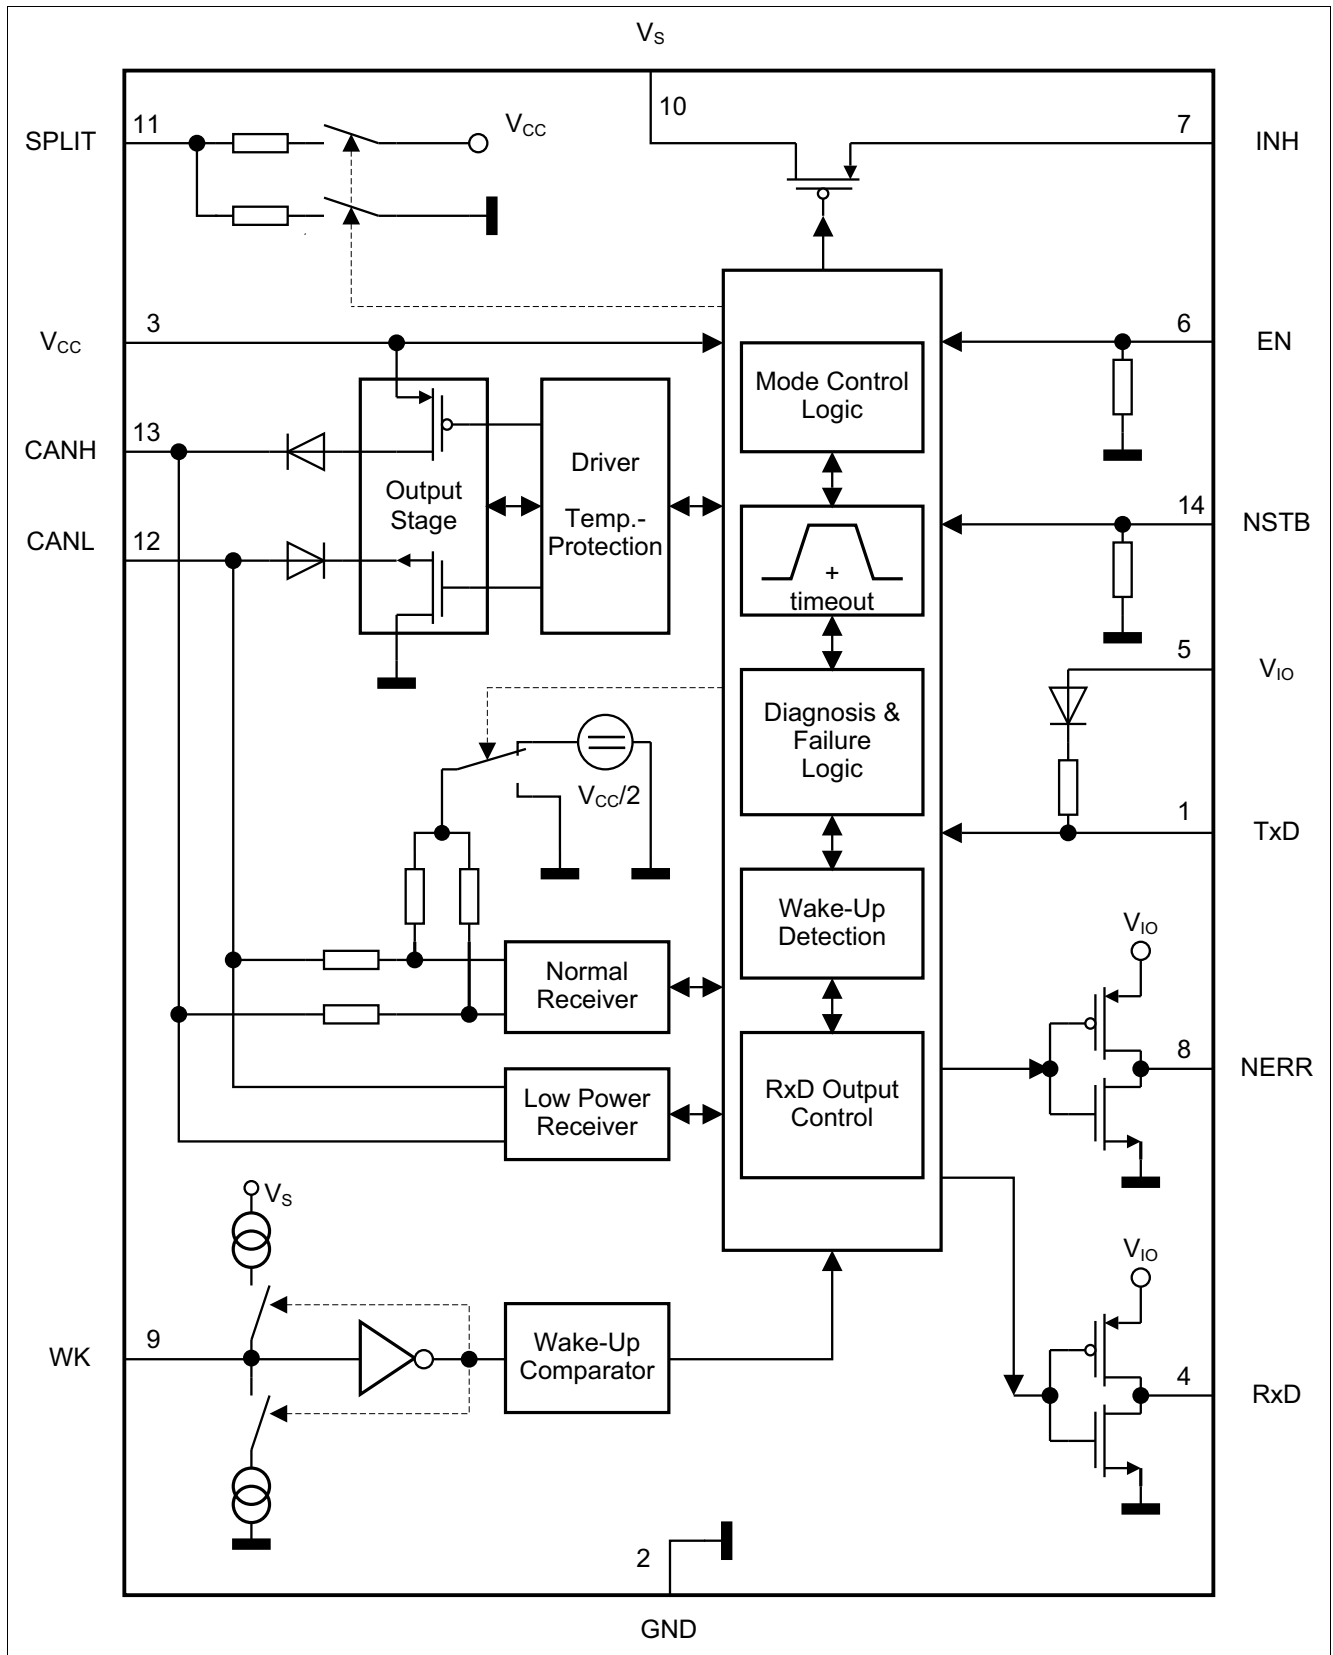
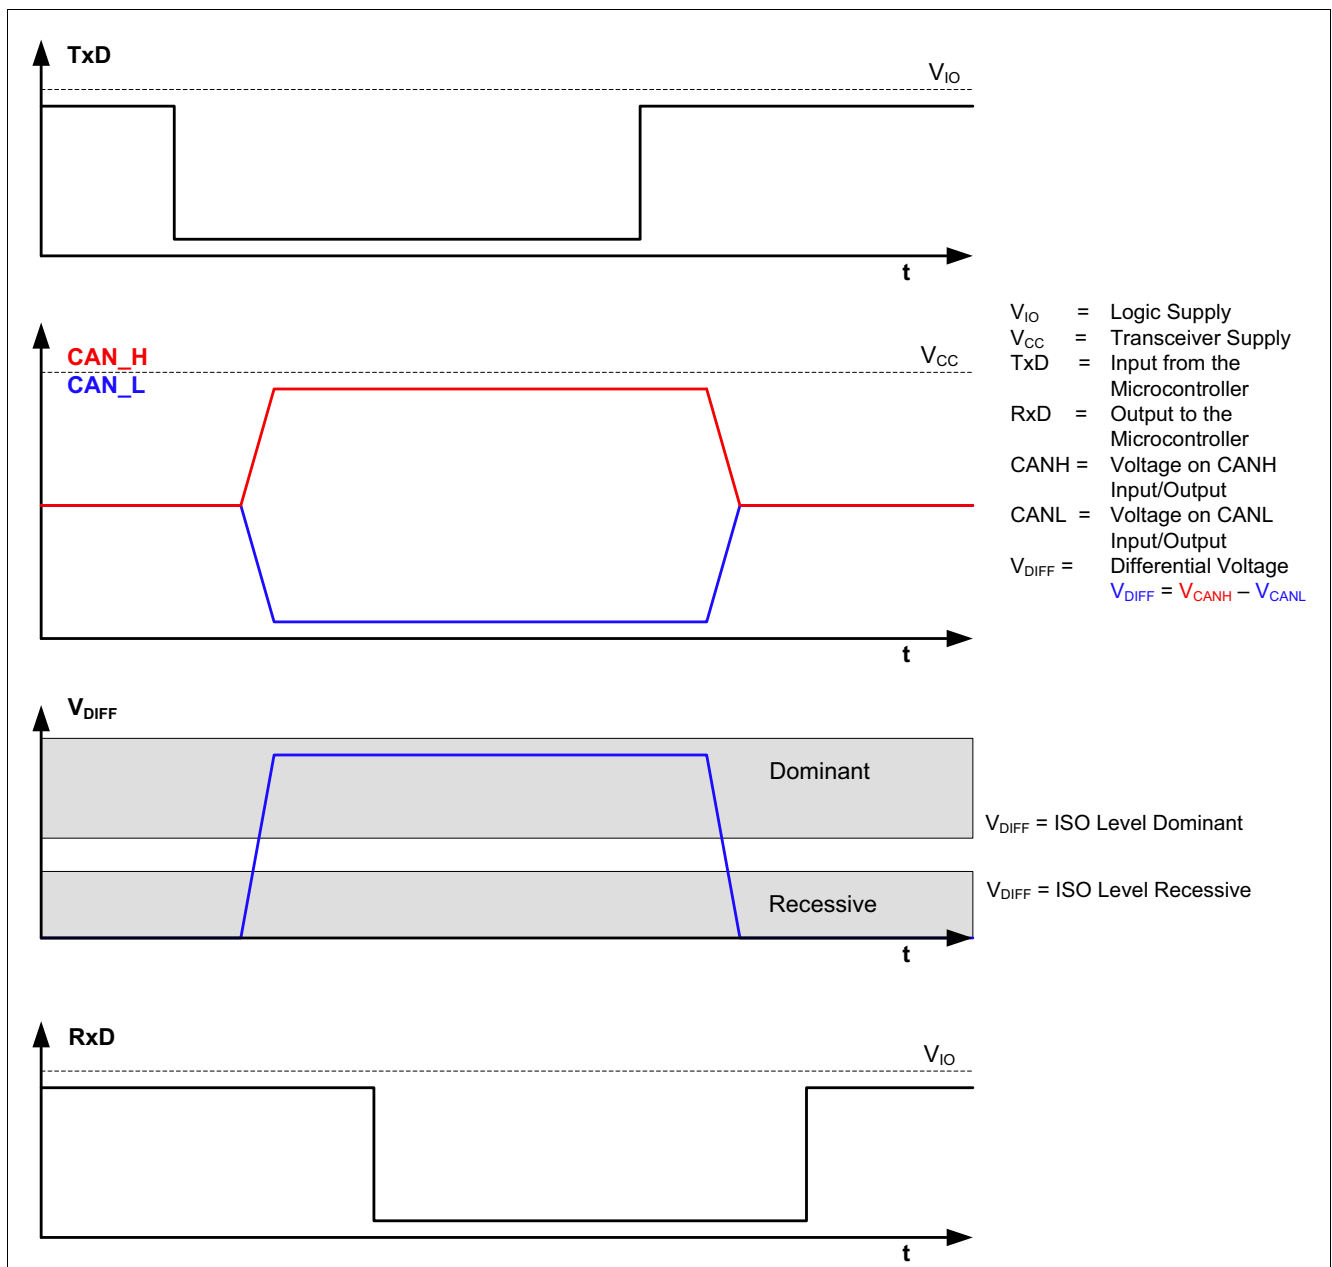

Figure 1 Block Diagram
Figure 3 High Speed CAN Bus Signals and Logic Signals
The TLE6251-2G is a High Speed CAN transceiver, operating as an interface between the CAN controller and the physical bus medium. A High Speed CAN network (abbreviated HS CAN) is a two wire differential network which allows data transmission rates up to 1 MBaud. Characteristic for a HS CAN network are the two CAN bus states dominant and recessive (see Figure 3).
The input TxD and the output RxD are connected to the microcontroller of the ECU. As shown in Figure 1, the HS CAN transceiver TLE6251-2G has a receive unit and a output stage, allowing the transceiver to send data to the bus medium and monitor the data from the bus medium at the same time. The HS CAN TLE6251-2G converts the serial data stream available on the transmit data input TxD into a differential output signal on CAN bus. The differential output signal is provided by the pins CANH and CANL. The receiver stage of the TLE6251-2G monitors the data on the CAN bus and converts them to a serial data stream on the RxD pin. A “low” signal on the TxD pin creates a dominant signal on the CAN bus, followed by a “low” signal on the RxD pin (see Figure 3). The feature, broadcasting data to the CAN bus and listening to the data traffic on the CAN bus simultaneously is essential to support the bit to bit arbitration on CAN networks.
- Through the internal resistors R_1 (see Figure 1), the pins CANH and CANL are connected to GND.